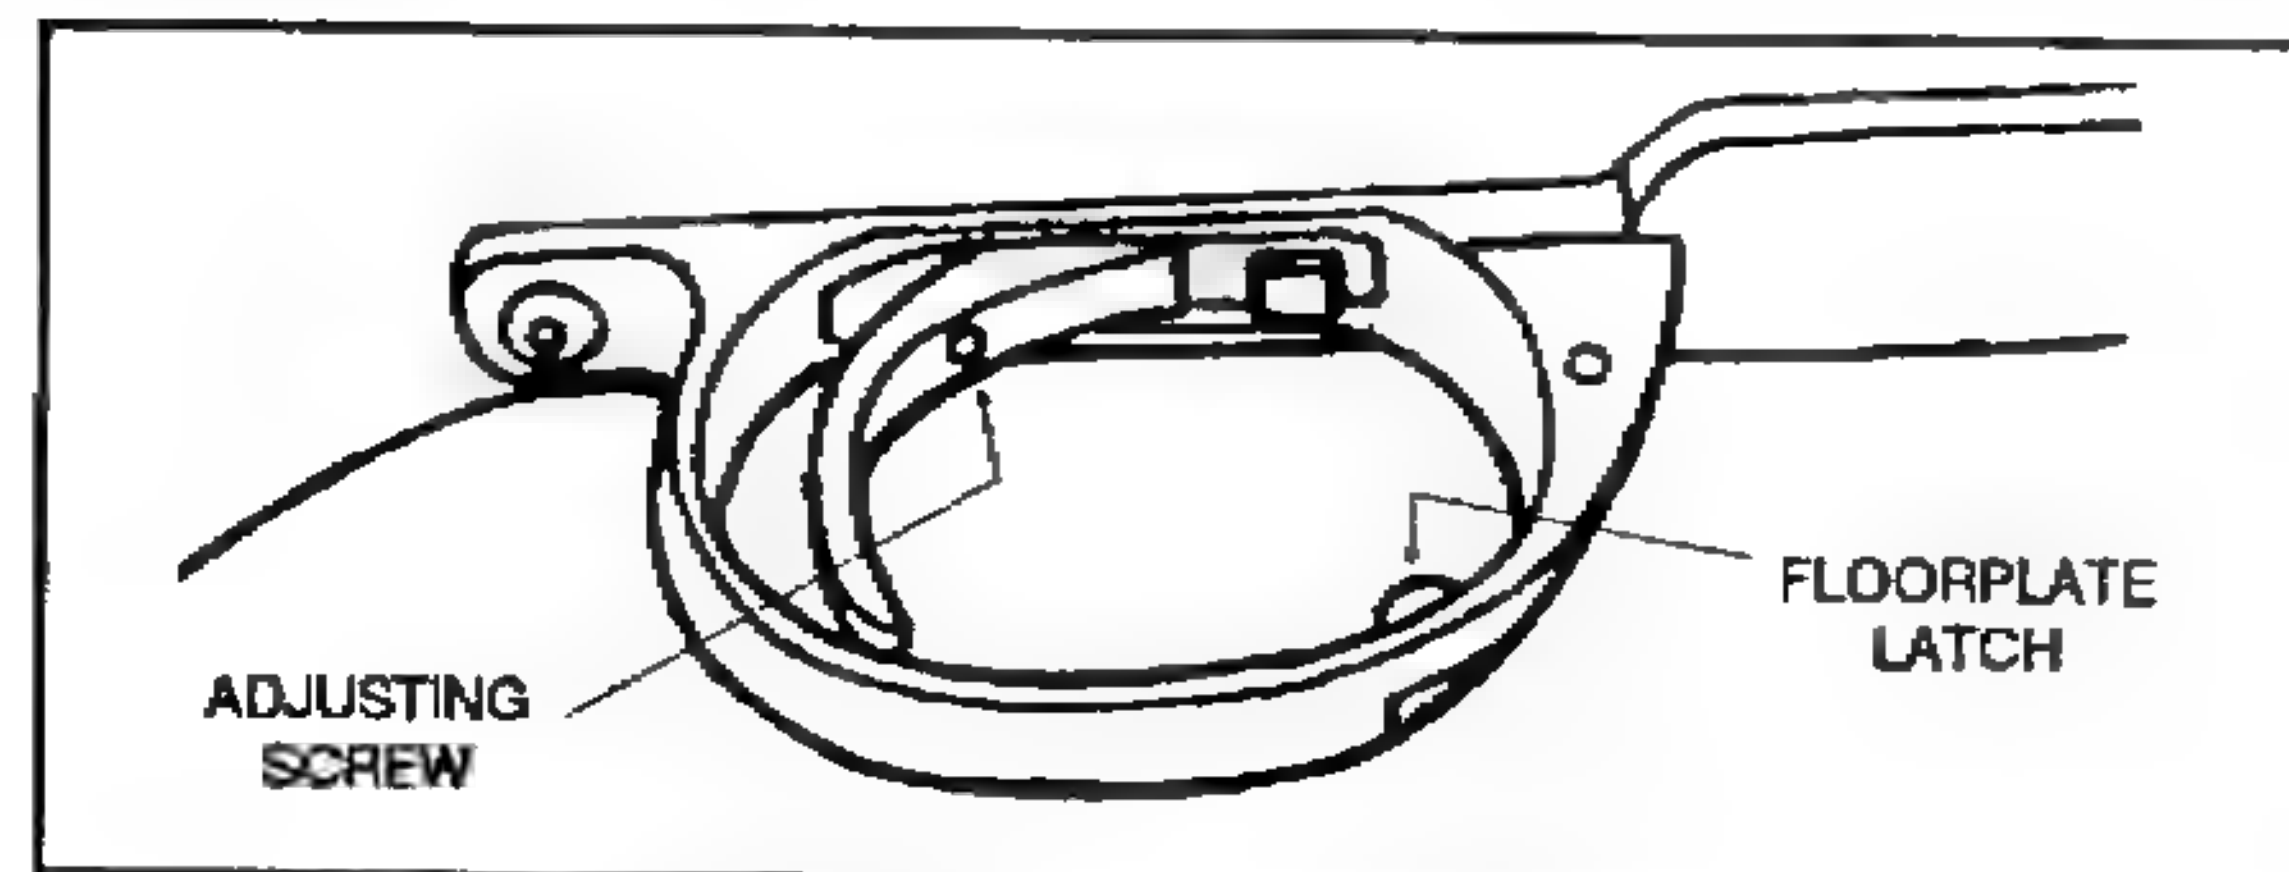

Figure 2-6. Trigger adjustment.
c. **Trigger Assembly.** Pulling the trigger fires the rifle when the safety is in the "F" position. The operator may adjust the trigger pull force from a minimum of 2 pounds to a maximum of 8 pounds. This is done using the 1/16-inch socket head screw key provided in the deployment kit. Turning the trigger adjustment screw (Figure 2-6) clockwise increases the force needed to pull the trigger. Turning it counterclockwise decreases the force needed. This is the *only* trigger adjustment the sniper should make.